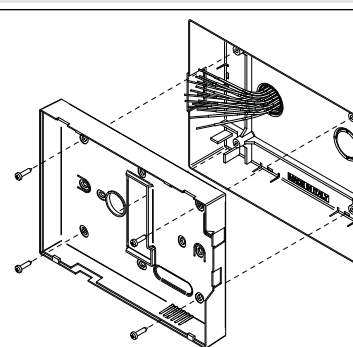

Fig. 5
3. As shown in **Fig. 5**, fix the back cover of the videophone to the flush mounting box keeping the same orientation shown in the figure and taking care to feed the connection cables through the specific circular opening;